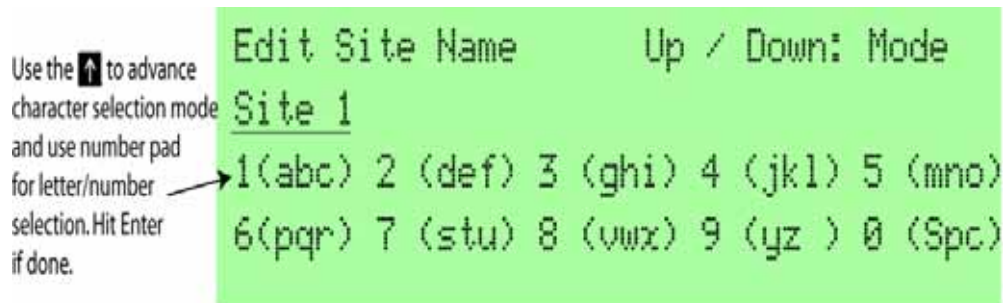

Figure 6-2 Site Assignment
- Press **2** to edit the site name press. See Figure 6-2